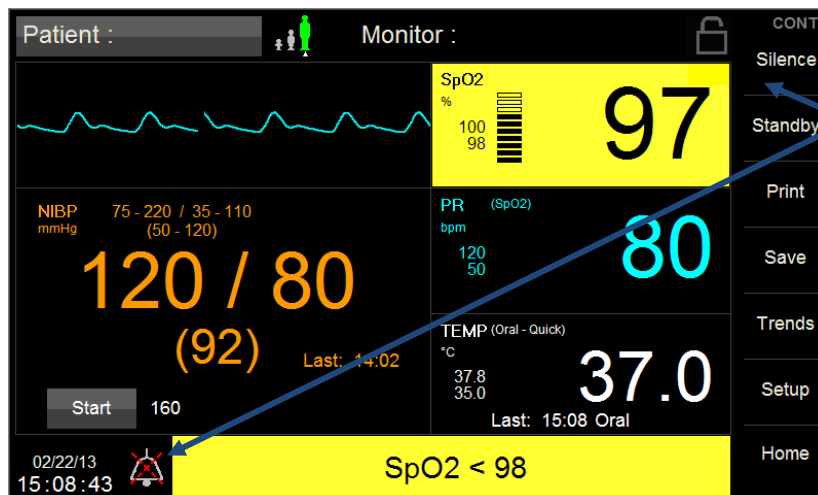

Figure 36: SpO₂ in Alarm, Audio paused
- Touching Silence will pause the audio associated with that alarm (refer to Figure 36).